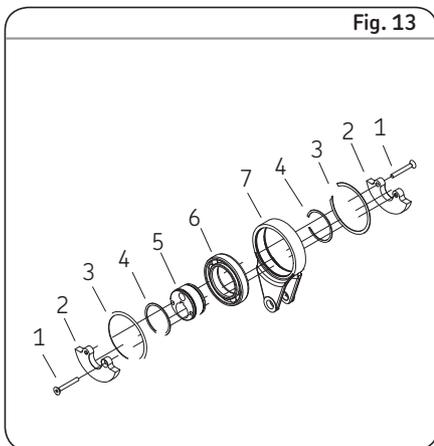

Fig. 13
- 1 Place the crank rod (7) on the supplied 2 1/2 in. (62 mm) diameter steel pipe.
- 2 Refer to **fig. 13** and install the ball bearing assembly (6) into the crank rod (7).
- 3 Place the eccentric (5) in the ball bearing (6).
- 4 Place one end of the inner retaining ring (4) on top of the eccentric (5).
- 5 Squeeze the other end of the retaining ring (4) toward the center and slide retaining ring (4) into place.
- 6 Place one end of the outer retaining ring (3) on top of the inner retaining ring (4).
- 7 Squeeze the other end of the retaining ring (4) toward the center and slide retaining ring (4) into place.
- 8 Align the holes of the counter-balance weights (2) with the threaded holes of the eccentric (5) and place on the eccentric (5).
- 9 Insert the flat head screws (1) into the counter-balance weight (2) and torque the flat head screws (1) to a torque of 100–110 in.lbf. (11,3–12,4 Nm).